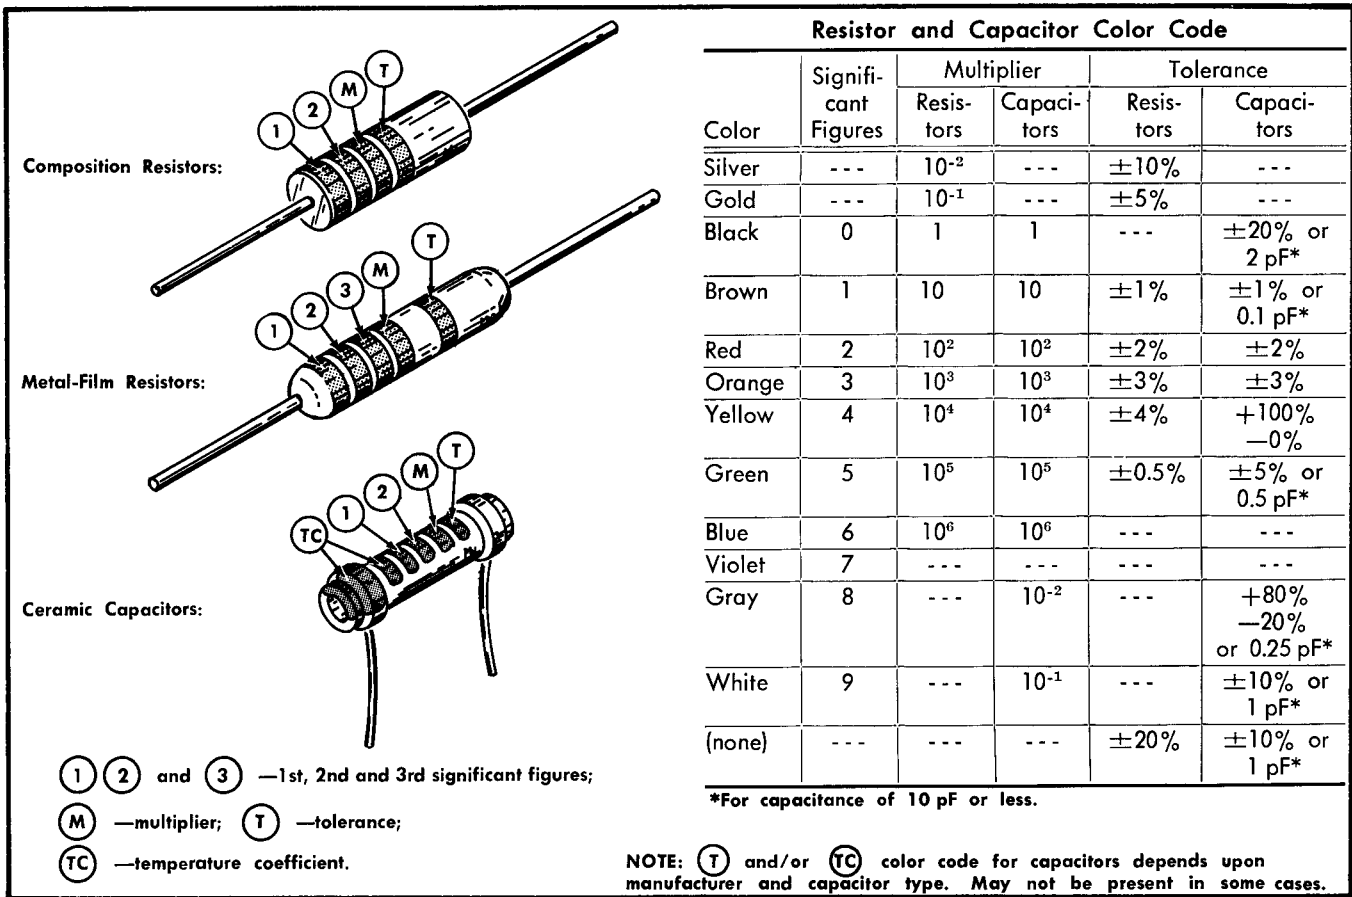

Fig. 5-1. Resistor and ceramic capacitor color code.
The color-coding sequence is shown in Fig. 5-1.
**Capacitor Marking.** The capacitance values of common solid capacitors and small electrolytics are marked in microfarads on the side of the component body. The white ceramic capacitors used in the Type 3T2 are color coded in picofarads using a modified EIA code (see Fig. 5-1).